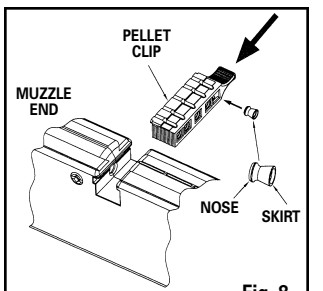

Fig. 8
- Place a pellet (nose first), in each of the five pellet chambers (Fig. 8). **IMPORTANT:** To avoid jams or deforming pellets, make sure each pellet skirt is level or slightly below the rim of the pellet chamber.